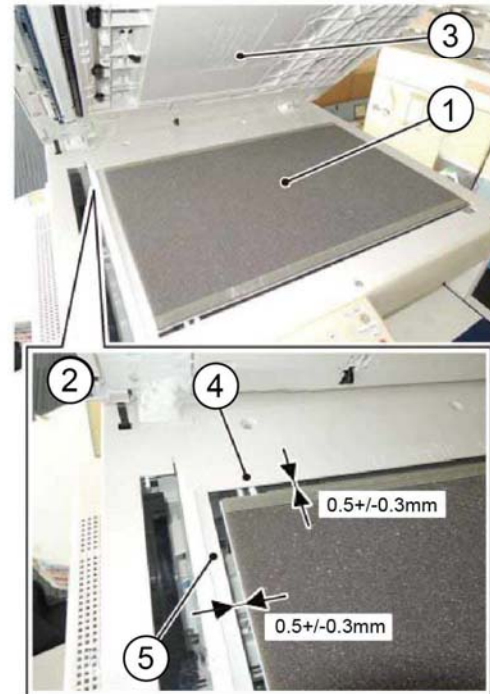

Figure 2 Document cushion installation
1. Attach the new DADF document cushion, Figure 2:
- a. Place the DADF document cushion (1) on the document glass.
- b. Set the gaps (2) between the document cushion and the document guide (4) and the registration guide (5).
- c. Slowly lower the DADF to adhere the DADF document cushion (3).